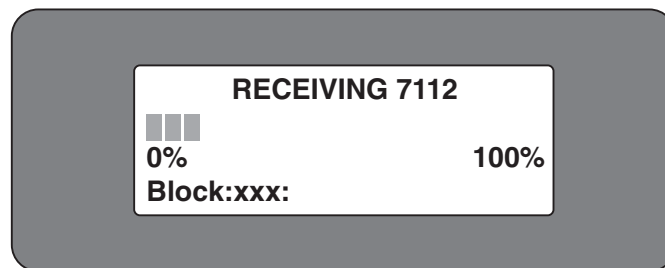

Figure 26: "RECEIVING PROGRAMMER" UPDATE PROGRESS
6. Press the white **ENTER** key. The programmer clicks as it dials out, and the message **WAITING for CARRIER** is momentarily displayed, followed by the message **WAITING for CONNECT to Update System** is displayed. When this handler request is detected by the Update System, the Update System transfers the requested handler. The progress of the handler reception is displayed on the programmer (see Figure 26). If the transfer is successful, the message **UPDATE SUCCESSFUL** is displayed. The cursor returns to the **UPDATE** menu. To update additional handlers, repeat steps 2 through 6.
5. Press the white **ENTER** key. The message **WAITING for CONNECT to Update System** is displayed. When this handler request is detected by the Sending Programmer, the Sending Programmer transfers the requested handler. The progress of the handler reception is displayed (see Figure 26). If the transfer is successful, the message **UPDATE SUCCESSFUL** is displayed. The cursor returns to the **UPDATE** menu. To update another handler, repeat steps 2 through 5.
6. Press the white **ENTER** key. The programmer clicks as it dials out, and the message **WAITING for CONNECT to Update System** is displayed. When this handler request is detected by the Sending Programmer, the Sending Programmer transfers the requested handler. The progress of the handler reception is displayed (see Figure 26). If the transfer is successful, the message **UPDATE SUCCESSFUL** is displayed. The cursor returns to the **UPDATE** menu. To update additional handlers, repeat steps 2 through 6.